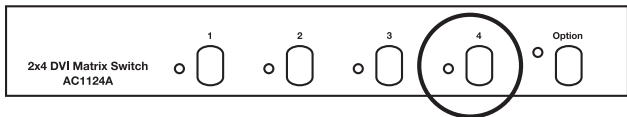

Figure 5-1. Port 4 button.
1. Press the desired port button, for example, "4." See Figure 5-1.